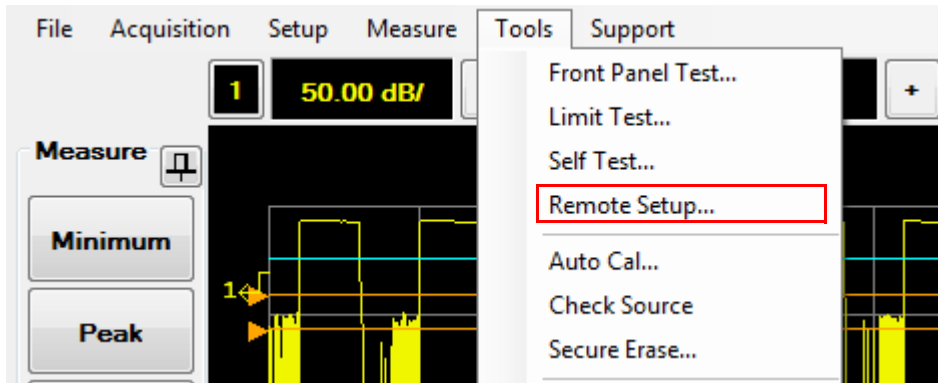

Figure 2-162 Remote Setup... selection in the Tools menu
- 1 Select **Tools > Remote Setup...** on the toolbar as shown in Figure 2-162.